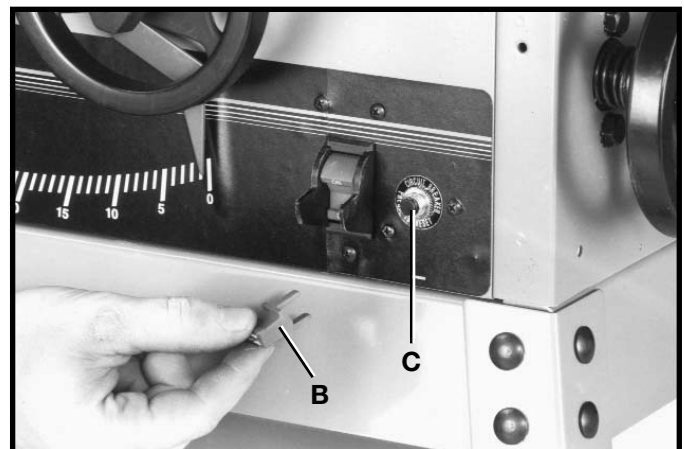

Fig. 34
IMPORTANT: When the tool is not in use, the switch should be locked in the "OFF" position to prevent unauthorized use. Grasp the switch toggle (B) and pull it out as shown in Fig. 34. With the switch toggle (B) removed the switch will not operate. However, should the switch toggle be removed while the saw is running, it can be turned "OFF" once, but cannot be restarted without inserting the switch toggle (B).
Your saw is equipped with a reset overload relay button (C) Fig. 34. If the motor shuts off or fails to start due to over-loading (cutting stock too fast, using a dull blade, using the saw beyond its capacity, etc.) or low voltage, turn the switch to the "OFF" position, let the motor cool three to five minutes and push the reset button (C), which will reset the overload device. The motor can then be turned on again in the usual manner.